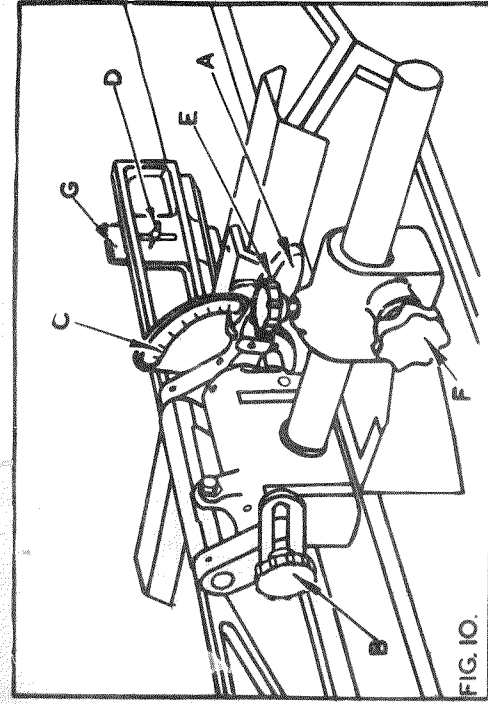
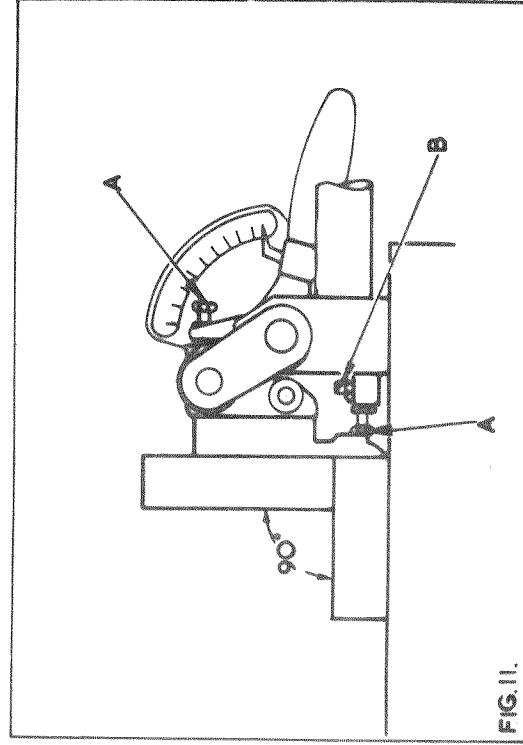

FIG. 10.
FIG. 11.
The fence cants by means of a single lever "A" in Fig. 10 to 45°. The angle to which the fence is canted is shown on a graduated scale "C".
1. Move the fence towards the rear of the table as shown in Fig. 11.
2. Check the 90° positive stops by means of a steel square as shown in Fig. 11. If adjustment is necessary, adjust the hexagon head bolts "A" until the fence is at right angles to the table when hard up against the stops and the handwheel "B", in Fig. 10, locked.
3. Check the 45° positive stop by means of an adjustable square. If adjustment is necessary, adjust the socket head grub screw "B" until the fence is 45° to the table when hard up against the stop and the handwheel "B" in Fig. 10 locked.